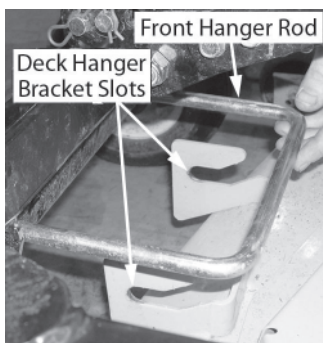

Figure 3-16
- Roll the deck and/or deck frame as necessary to place the deck front hanger rod in the slots of the deck front hanger bracket. Roll the deck rearward so that the hanger rod is at the front of the slots. Refer to Figure 3-16.